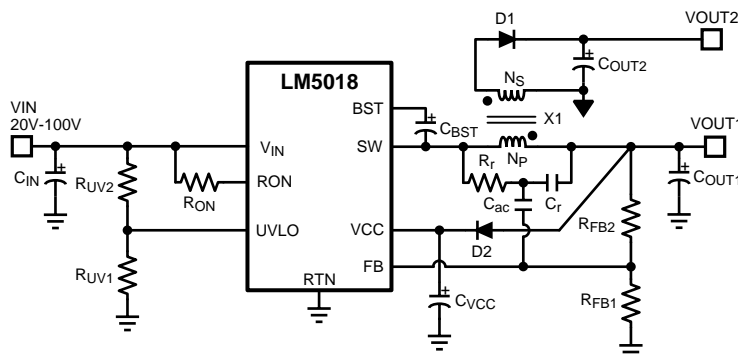

Figure 17. Typical Isolated Application Schematic
An isolated supply using LM5018 is shown in Figure 17. Inductor (L) in a typical buck circuit is replaced with a coupled inductor (X1). A diode (D1) is used to rectify the voltage on a secondary output. The nominal voltage at the secondary output (V_{OUT2}) is given by: